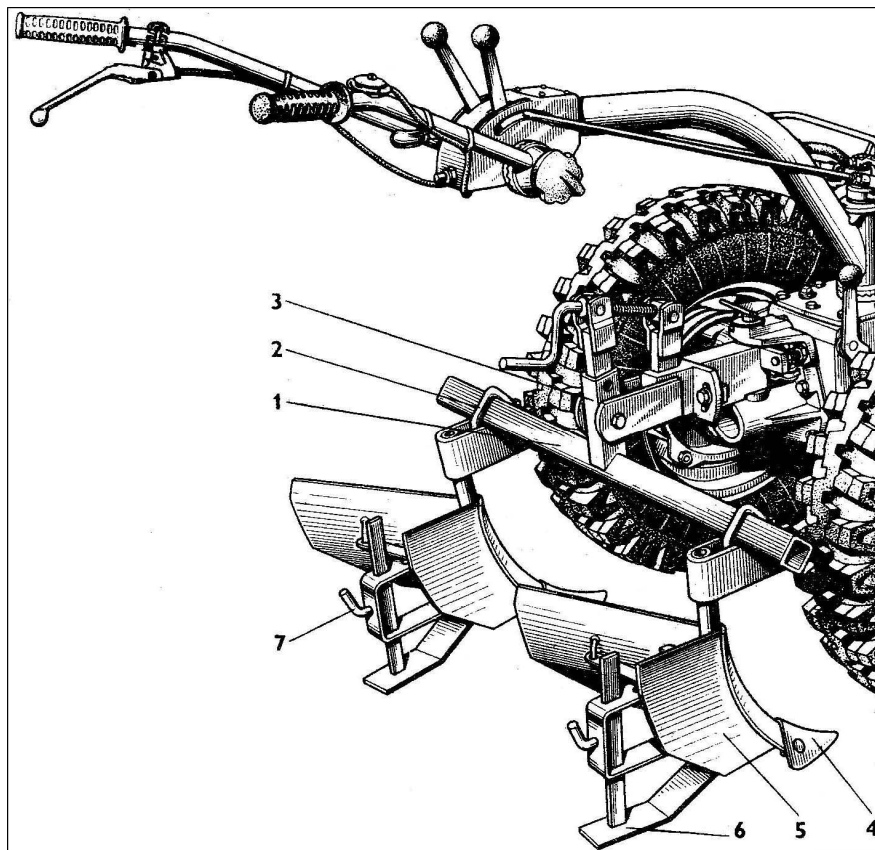

Figure 16 – Two-wheel tractor coupled with a ridger
7.4.1 Attach a ridger to the tractor (fig. 16).